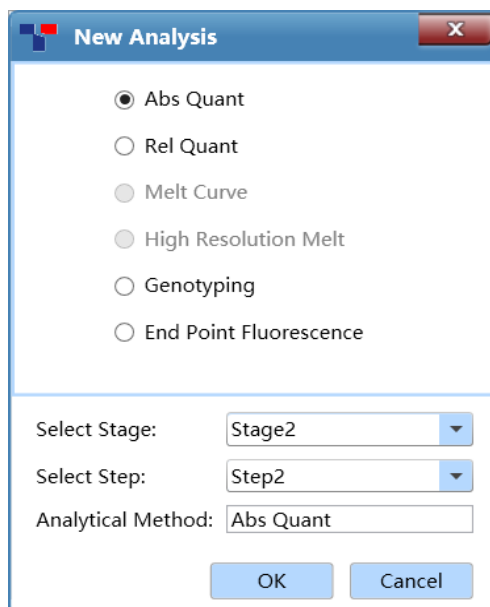

Figure D-8. New Analysis window
- User can click <  **New Analysis** > icon in Tool Bar and the application software will automatically pop up the new analysis window, as shown in figure D-8.